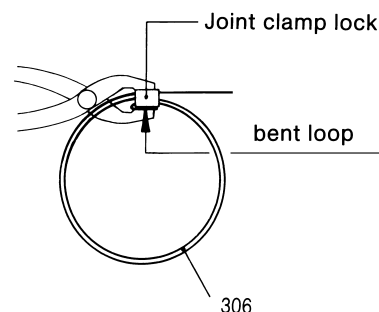

Figure 8: Press joint clamp loop against joint clamp lock.
- By means of a screw driver, mount joint collar (308), lift top by means of a screw driver, run spray pipe of the oil bottle under the collar and fill joint chamber with ALLWEILER special joint oil Type B or oil ET 1510 ISO 460 of Messrs. Tribol Lubricants GmbH, Mönchengladbach, Germany. For the use of the pumps for foodstuffs with ALLWEILER special joint oil Type BL or oil 1810/460 of Messrs. Tribol Lubricants GmbH, Mönchengladbach, Germany.
- Check whether bent loop of the joint clamp (306) rests against the joint clamp lock. If not, press it against same by means of commercial flat pliers (please refer to Figure 8 below).